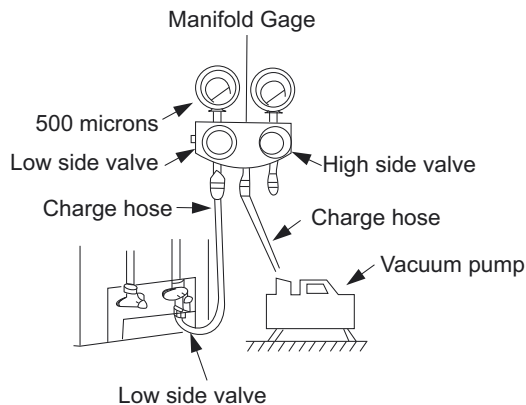

Fig. 80 – Manifold
3. Open (fully) the low side of the manifold gage (see Fig. 80).